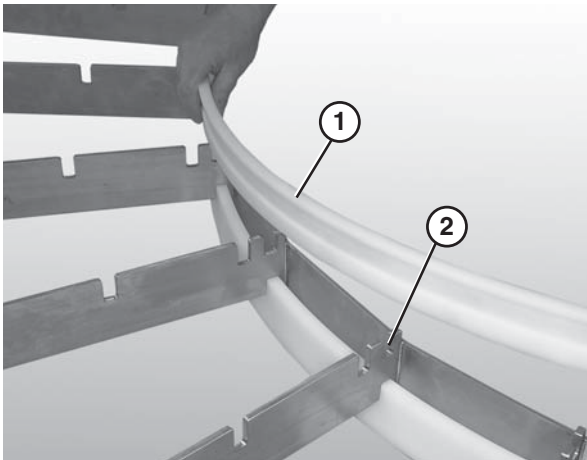

Figure 28
1. Insert the inside curve top wear strip (Figure 28, item 1) into the innermost slot (Figure 28, item 2) on the inside of the frame.